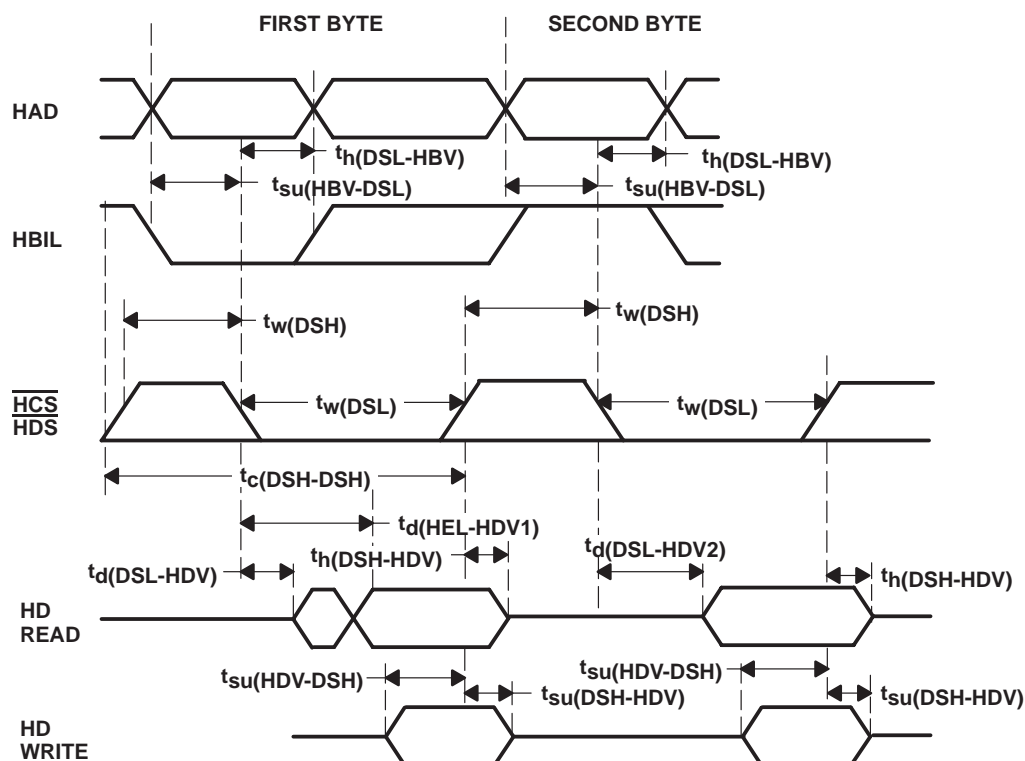

Figure 40. Read/Write Access Timings Without HRDY or HAS
**switching characteristics over recommended operating conditions [ $H = 0.5t_{c(CO)}$ ] (See Notes 4 and 5) (see Figure 40 through Figure 43)**
**timing requirements over recommended operating conditions [ $H = 0.5t_{c(CO)}$ ] (See Note 4) (see Figure 40 through Figure 43)**